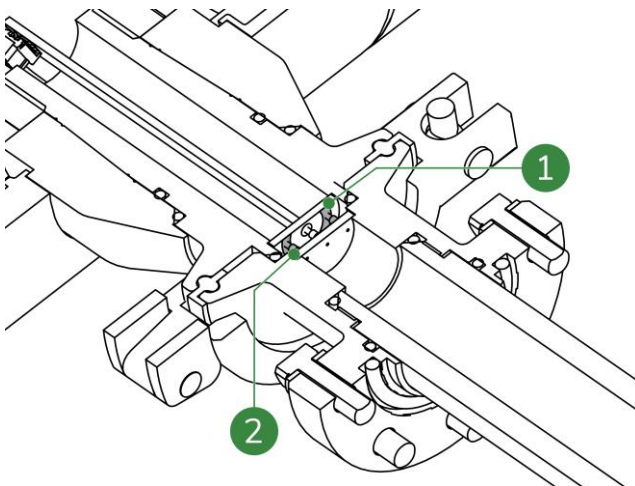

Figure 8-6: Sensor and transmitter connections
- transmitter connections (Figure 8-6, pos. 1);
- sensor connections (Figure 8-6, pos. 2).